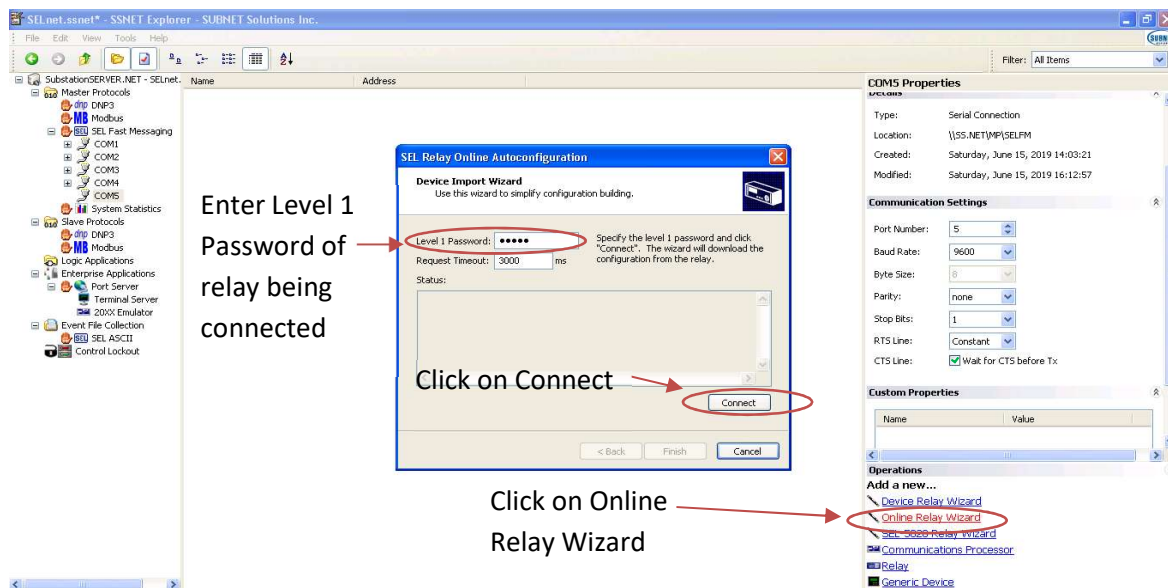

Figure 4.14 Starting the Online Relay Wizard
- 6) After configuring the serial COM properties, Online Relay Wizard (on the lower side of right pane) has to be launched. This will open a window as shown in Figure 4.14. Enter level 1 password of relay being connected and click Connect.